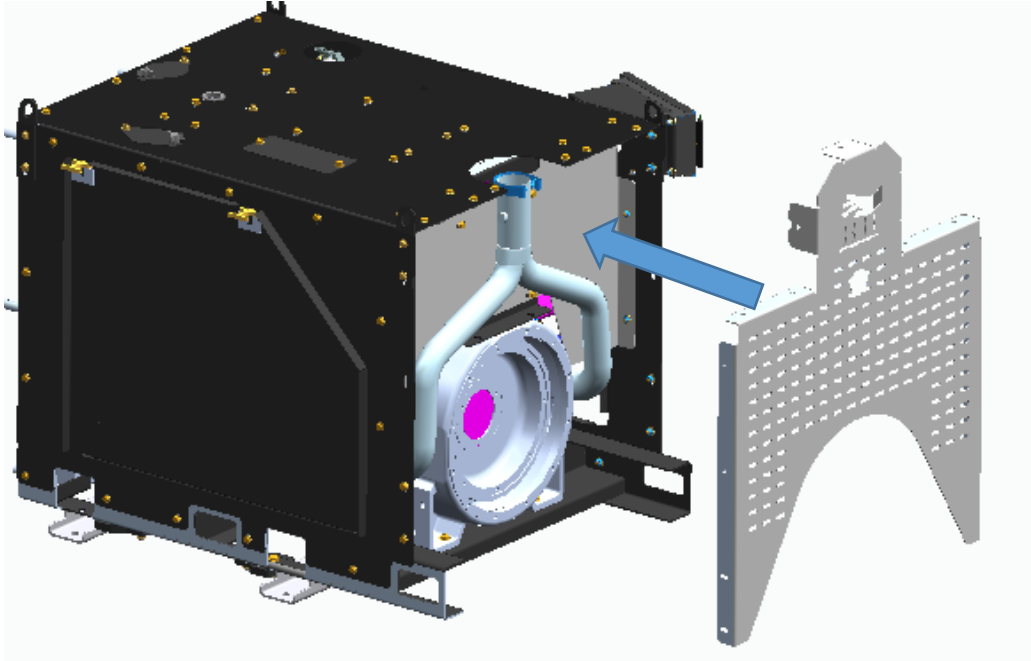

Figure 5
4) See Figure 5. Install Rear Panel using existing hardware.